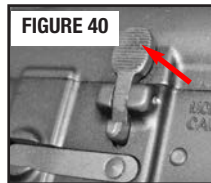

FIGURE 40
- Push the top of the bolt release to ensure that the bolt is in the forward position (FIGURE 40).